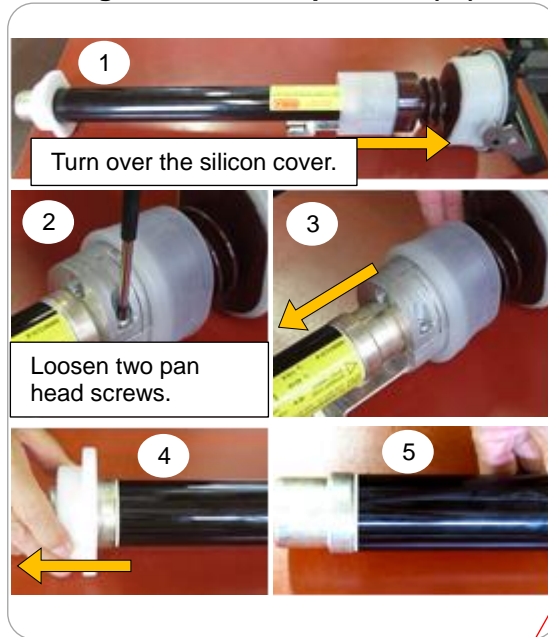

Figure 34. Fuse removal (④)
- ④ Remove the fuse from the holder. [Figure 34]